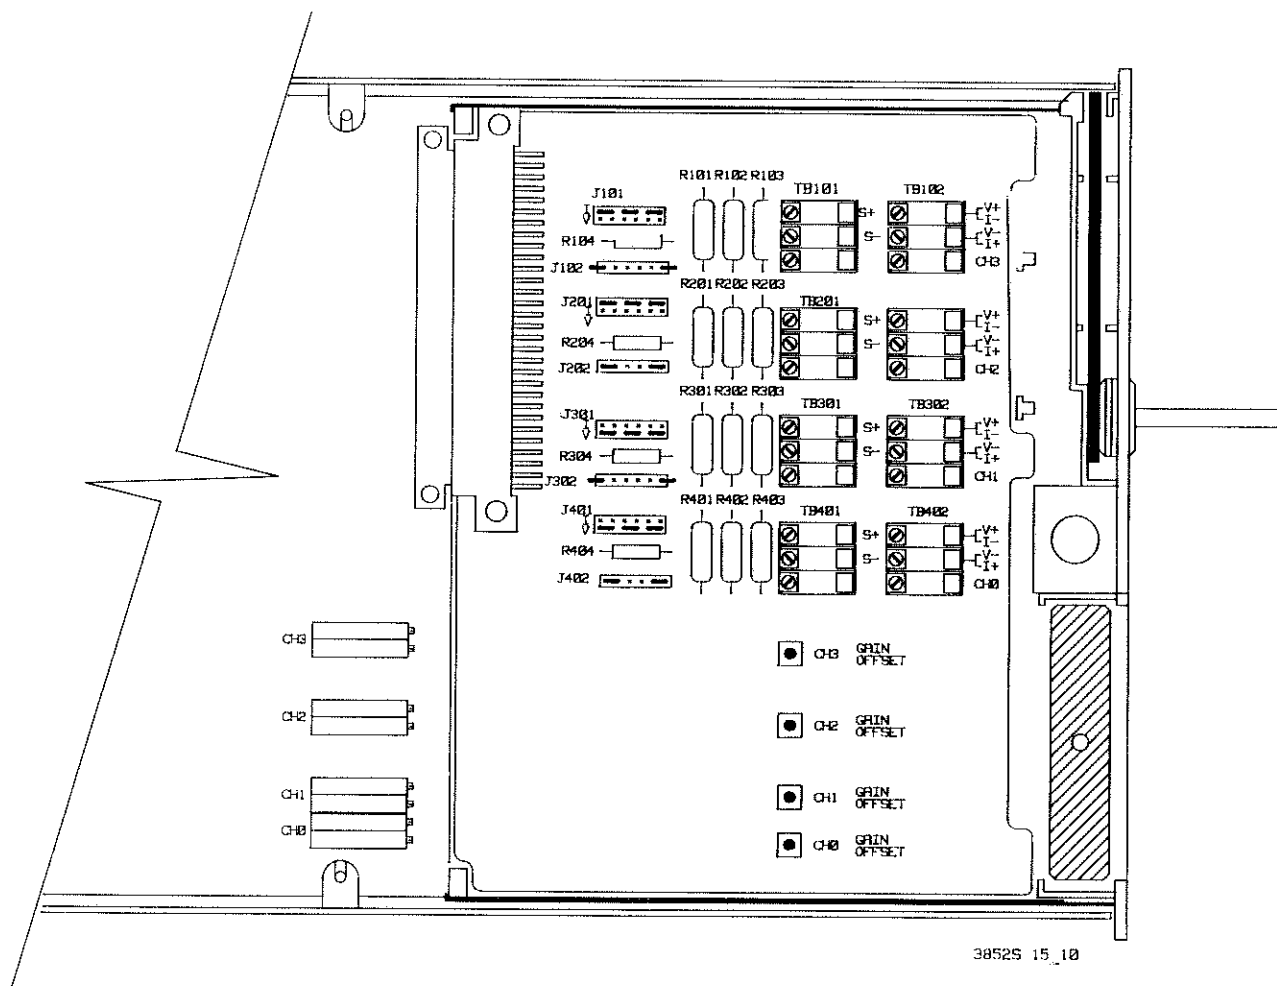

Figure 15-20 Calibration Potentiometer Locations
4. Adjust the OFFSET potentiometer on the channel being calibrated for a 0.00000 volts reading on the multimeter. A special tool is provided to easily access the potentiometer from the terminal module. Guide the adjustment tool on top of the test point in the terminal module for the specific channel being calibrated. The OFFSET potentiometer is the lower of the two potentiometers as shown in Figure 15-20.
6. Adjust the GAIN potentiometer on the channel being calibrated for a +10.00000 volts reading on the multimeter. The GAIN potentiometer is the upper of the two potentiometers as shown in Figure 15-20.
6. Adjust the GAIN potentiometer on the channel being calibrated for a +5.00000 volts reading on the multimeter. The GAIN potentiometer is the upper of the two potentiometers as shown in Figure 15-20.